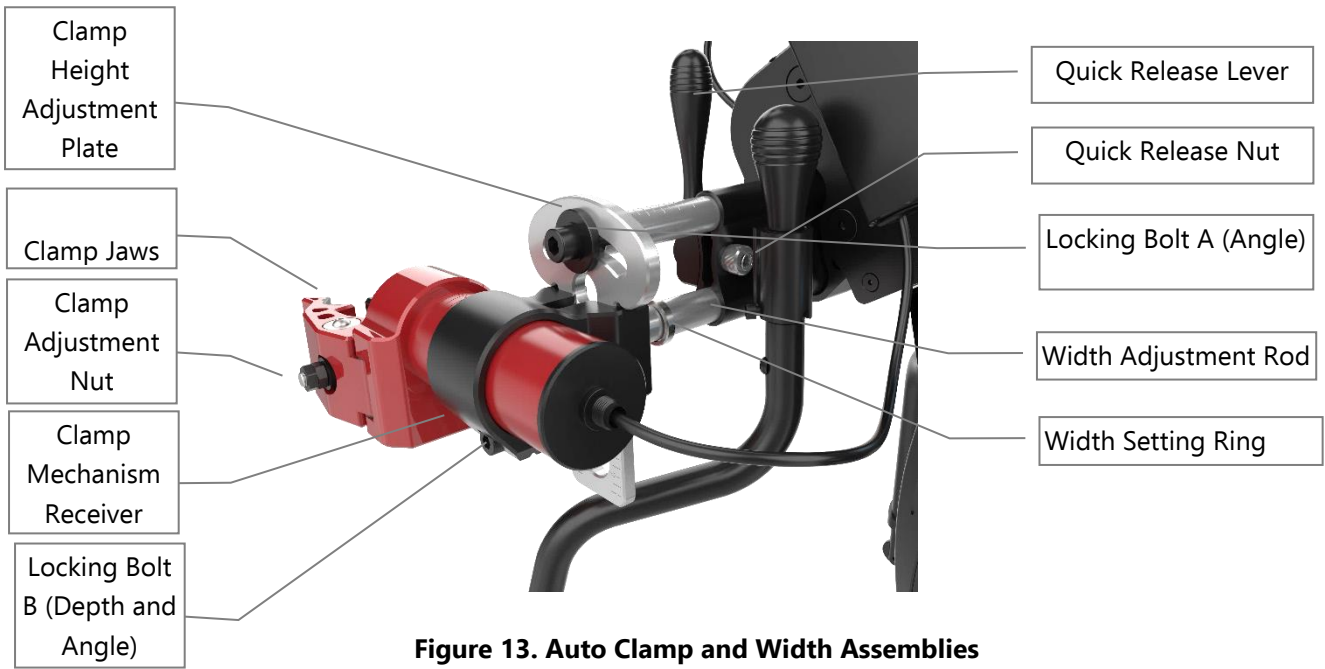

Figure 13. Auto Clamp and Width Assemblies
This configuration is available in 12”, 14”, 16” and 20” versions. Please check Figure 4. Model Decoder -Types and Descriptions. Please review Figure 13 for the naming of parts.
- Insert the red Auto Clamp Assembly into the Clamp Receiver with the Jaw Width Adjusting Nuts facing outwards and the rounded surface of the body facing upwards (see Figure 13).